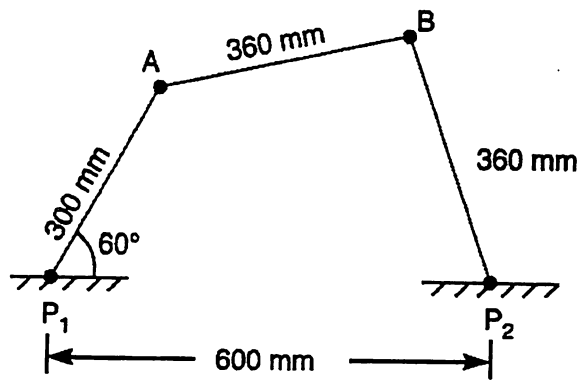

Figure 3
- 1 For the four bar mechanism, shown in figure 3, the crank P_1A has an angular velocity of 10 rad/s and an angular acceleration of 30 rad/s², both clockwise. Draw velocity and acceleration diagrams and determine the angular velocities and angular accelerations of P_2B , and AB and the velocity and acceleration of the joint B .